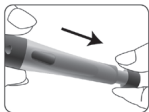

Figure 26
STEP 6: Slowly pull the Loading Barrel away from the Lancing Device Cover until you hear a click, indicating that the Lancet Carrier is locked into position. Release the Loading Barrel to return it to its original position. See Figure 26.